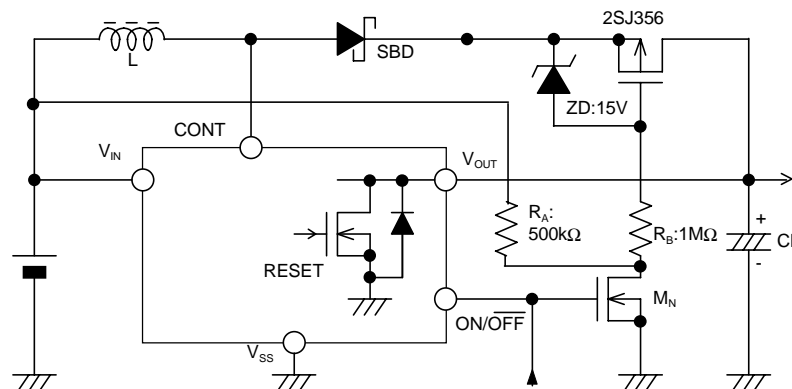

Figure 6 Circuit Example Using 2SJ356
Figure 6 shows a circuit example using the NEC 2SJ356 (Pch MOS FET) as a current cutting switch. This circuit example turns ON and OFF the 2SJ356 in connection with the reset signal to the power off pin using a small signal transistor  $M_N$  (Nch MOS FET). A Zener diode (ZD) is used for the purpose of clamping voltage so as not to apply high voltage (20V or more) of the rated voltage between the gate and the source of the 2SJ356. However, when the circuit is used at 20 V or below, a Zener diode is not needed. Invalid current flowing into resistors  $R_A$ ,  $R_B$  during step-up operation may affect the efficiency. Set  $R_A$ ,  $R_B$  to the maximum level. If you set the resistance of  $R_A$  to the high value, a drop in the voltage occurs in resistor  $R_A$  due to off current of  $M_N$  and the current cutting switch 2SJ356 does not normally function. Be careful (Note that the efficiency characteristics shown in the reference data were measured without attaching a current cutting switch and is different from that shown in this example).